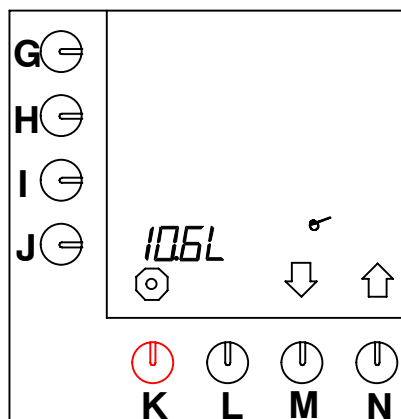

Fig. 30 Total amount of water
- After having entered the principal user PIN code fig.30 appears on the display.